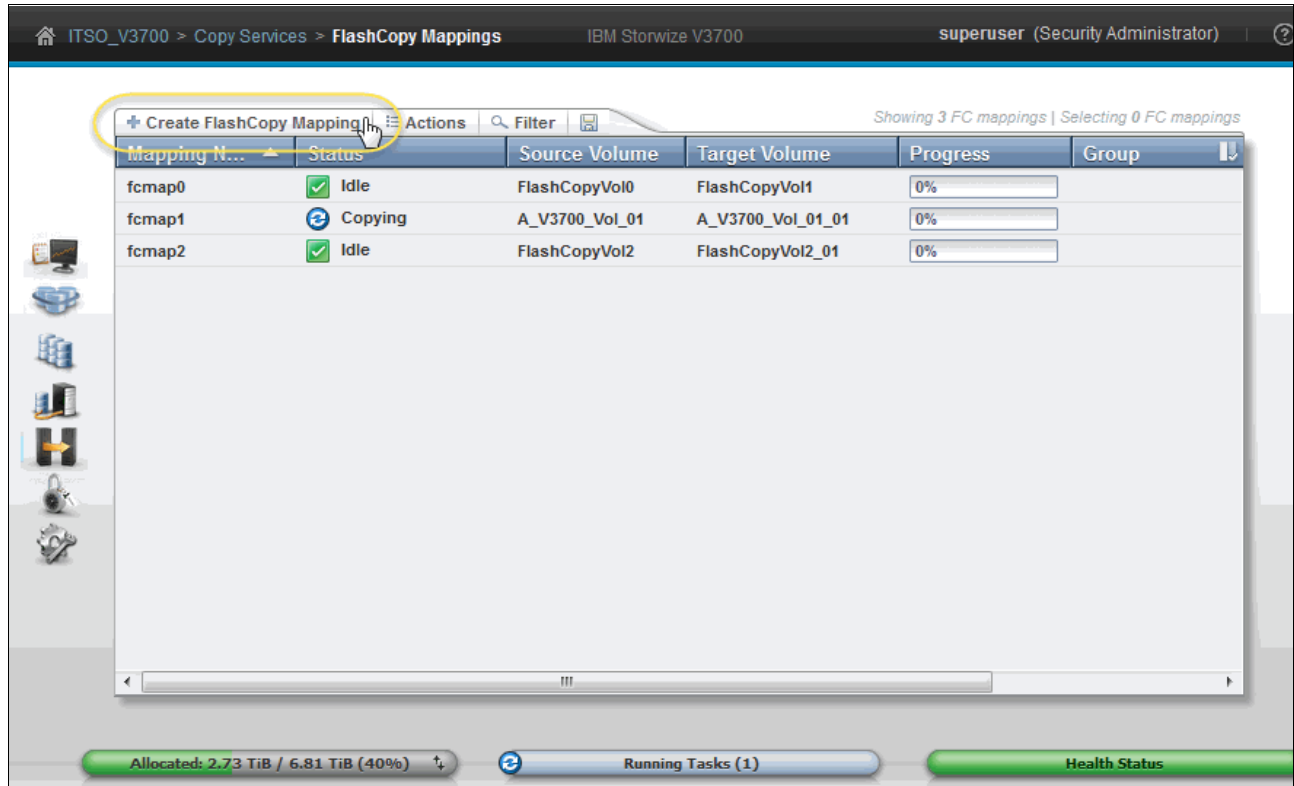

Figure 10-29 Create a FlashCopy mapping in the FlashCopy Mappings window
1. Click **Create FlashCopy Mapping**, as shown in Figure 10-29.